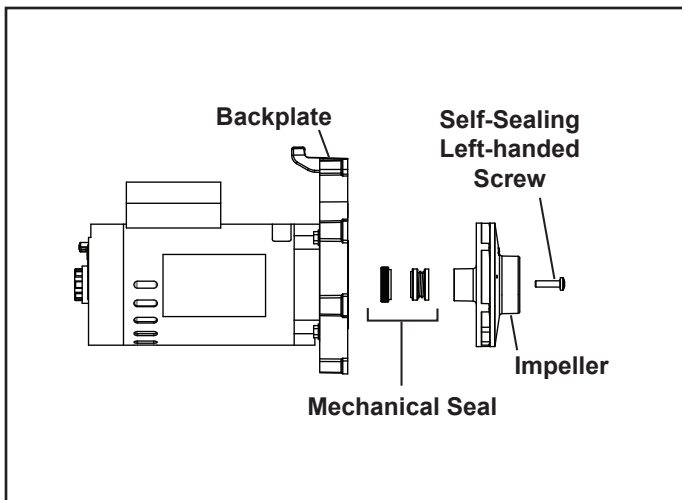

Figure 6. Remove the Impeller
8. Hold the exposed motor shaft with a 1/2" wrench while removing the impeller center screw using a No. 2 Phillips screwdriver. Since the impeller center screw is a left-hand threaded screw, turn it clockwise to loosen it. See Figure 6.